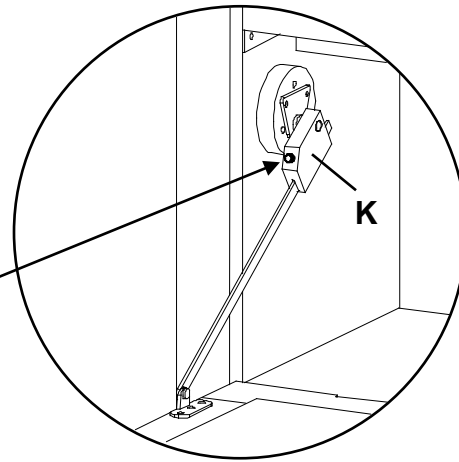

Fig. 14
14. To adjust the brake tension on the Door Stay (K) turn the screw on the Door Stay clockwise to loosen or counterclockwise to tighten. See Figures 14 and 14a.